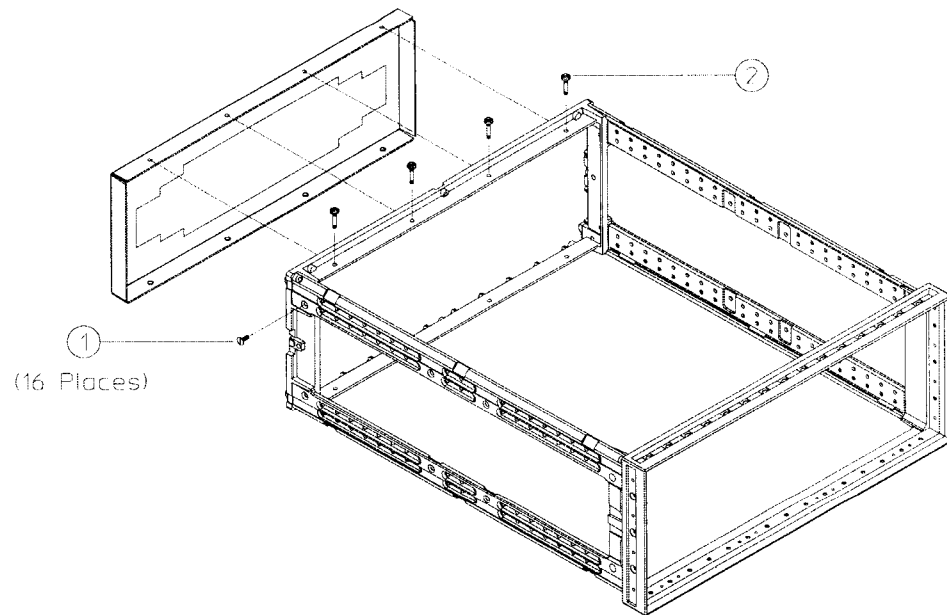

Figure 2
10. Assemble the rack kit frame as illustrated in Figure 2, using 8 (four on each side M4 x 0.7 x 6 mm flat-head screws. (See (1) in Figure 2) and eight M3.5 x 0.6 x 8 mm pan-head screws. (See (2) in Figure 2)